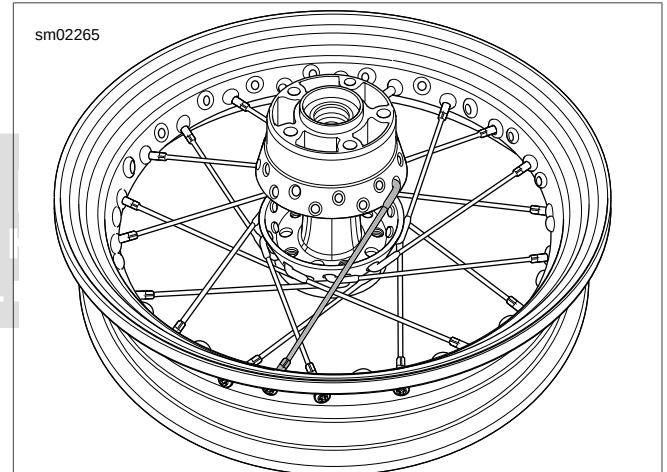

Figure 2-27. Sprocket Side Up: Start First Spoke of Bottom Row
7. See Figure 2-27. Turn wheel assembly over so primary brake disk side faces down. Place any **lower** row spoke into hub. Angle spoke clockwise and place into rim hole angled to accept it.